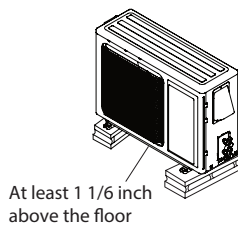

Fig.18
3. The outdoor unit should be installed at least 1 1/6inch above the floor in order to install drain joint.[As show in Fig.18]